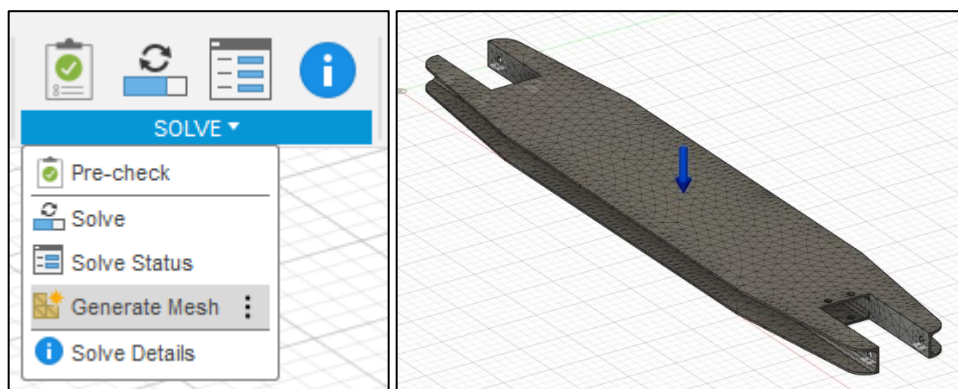

Figure 22. Generating Mesh of the deck.
5. Next under the solve section in the taskbar, select “Generate Mesh” (Figure 22).